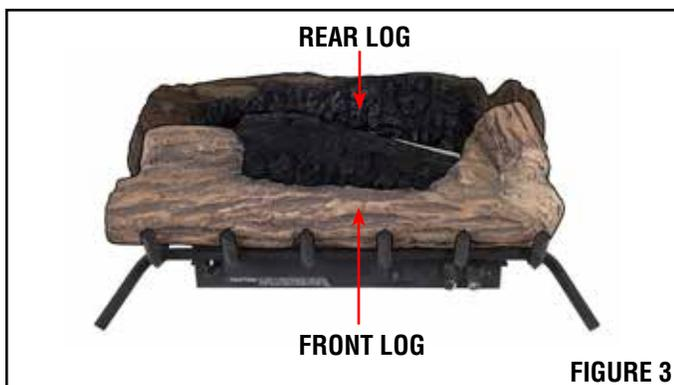

FIGURE 3
3. Place front log on grate and maneuver until the two (2) protusions line up with the notches found on rear log (see *Figure 3*).